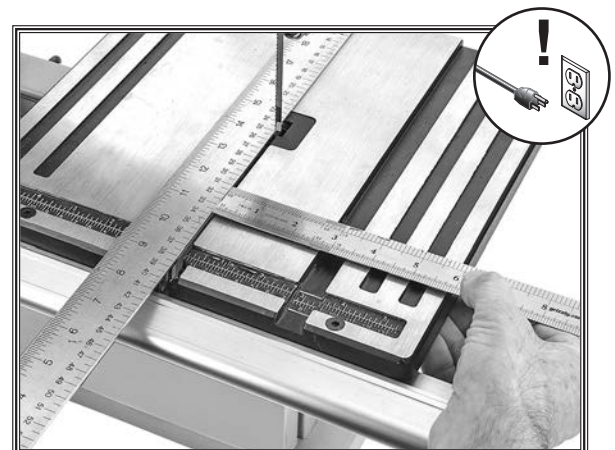

Figure 31. Placing a straightedge along the blade and measuring to the miter slot.
- Place an accurate straightedge along blade. The straightedge should lightly touch both front and back of blade (see **Figure 31**).
4. Use fine ruler to measure distance between straightedge and miter slot at front and back of table (see **Figure 31** on **Page 28**).